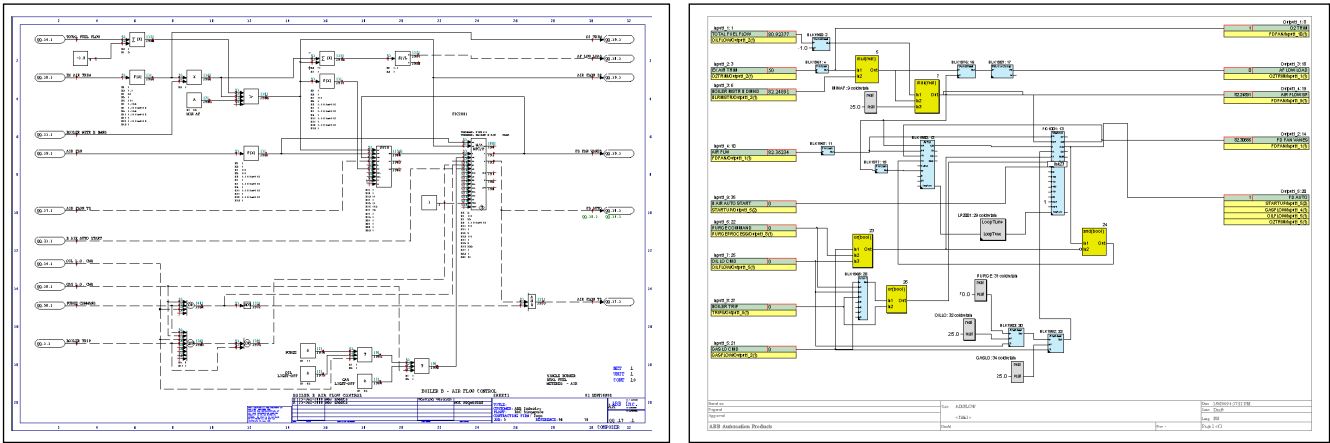

Figure 22. CLD (left) Conversion to Function Diagram (right)
Function Designer is used to configure and maintain INFI90FCLib control configurations. Its Function Diagrams (FD) provide the same “look and feel” graphical documentation as Composer’s Control Logic Diagrams (CLD) have done for INFI 90 FC based control logic within Harmony. Figure 22 compares a CLD with its converted FD counterpart. By preserving the “look and feel” of the control logic documentation, engineering re-training is minimized. Also, by providing an automated conversion service, engineering costs are further reduced by protecting the investments system owners have made in their documentation assets.